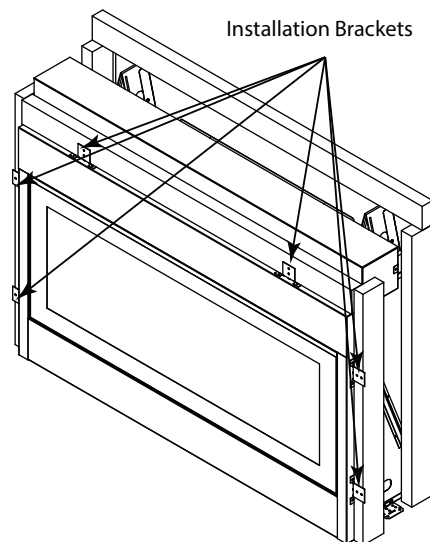

Figure 12
14. Position appliance with outdoor kit in the final installation location. Secure the installation brackets to the wall framing. Install electrical supply and gas supply according to installation instructions supplied with your appliance. See Figure 12.